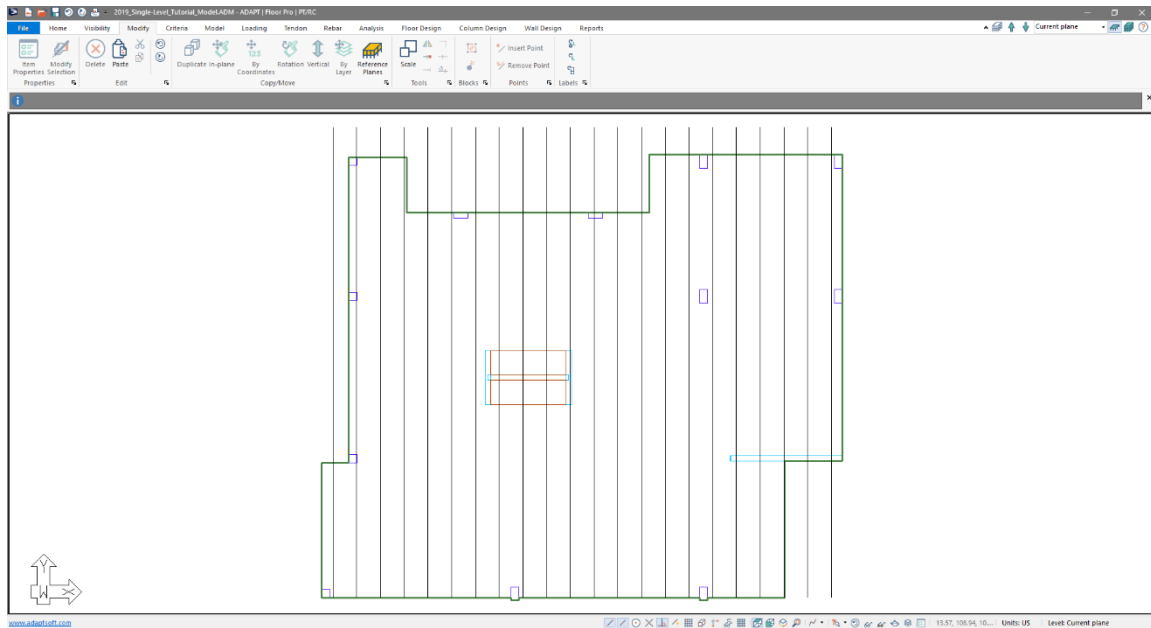

Figure 8-27
- Click on the *Copy* button to copy the line 4.4 ft to the left eleven times and close the *Copy – Move* window. We now have our construction lines for our distributed tendons in the model. The user’s model should now look similar to **FIGURE 8-27**.